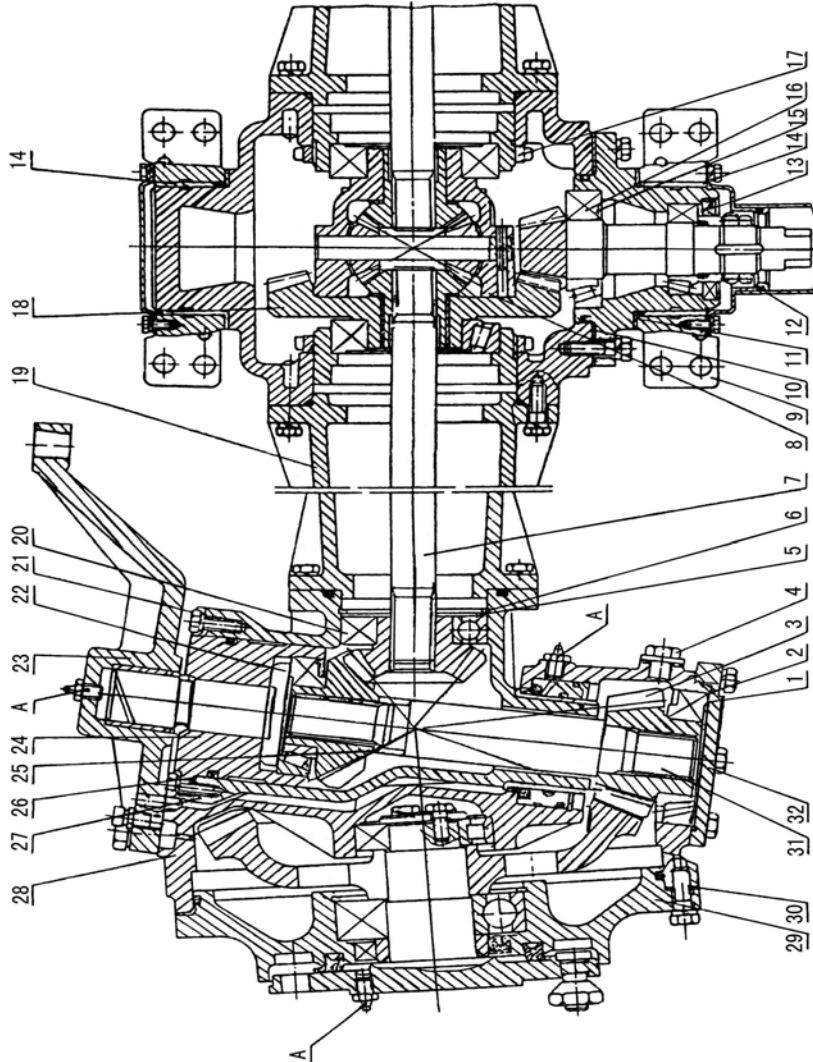

Fig.6-16 Fore central transmission and terminal transmission
When 4-wheel tractor goes along highway, power of front driving system shall be cut off to have the front wheels driven for reducing tires wearing. If the tractor is used for transportation for a long term instead of fields work, half shaft (7) shall be removed (see Fig. 6-16) to reduce resistance from front driving system for convenient transport. When the tractor goes along a sticky, wet and sandy path, or works in half- dry water fields, its back wheels skid easily, the front driving system shall be given power to raise its traction force.
(2) Structure and adjustment of front driving system.
The front driving power turns the front wheels through the following mechanisms, that is, the power goes through the transfer case under the bridge piece housing to the rolling ball coupling joint assembly (Fig. 6-17) to transmit to the central transmission system (Fig. 6-16) to divide into two parts and passes side half shafts to front final transmission.
After put differential mechanism into front axle assembly (Fig. 6-16), put its two shaft necks into internal ring of bearing (6) and adjustment nut (17) respectively, inspect meshing of driven wheel (18) and driving wheel (16), and adjust it if necessary then twist bolt(4) and single ear washer (3) in driven wheel (18) and differential mechanism cover (2), and lock hexagon head of bolt (5) by bending single-ear washer(3).
See Fig. 6-16, you shall adjust driving gear after front driving axle has no oil, and turn for 1 to 2 m clockwise and anti - clockwise, gear clearance shall be within 0.15 to 0.25mm, ideal contact mark refers to Fig. 6-7 and Fig. 6-8.